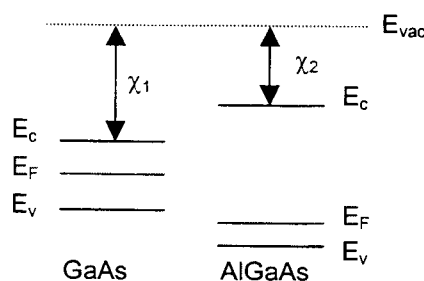

Figure 2.1: Heterojunction energy band diagram of p+-AlGaAs and un-GaAs before contact, relative to the local vacuum level
2. The energy band diagram of both un GaAs and p+ AlGaAs is given relative to the vacuum level in Figure 2.1.